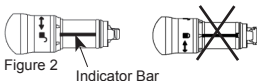

Figure 2
2. Slide attachment over distal end of handpiece aligning arrow on attachment with indicator bar and unlock symbol (Figure 2). Pull back firmly until fully seated against handpiece.